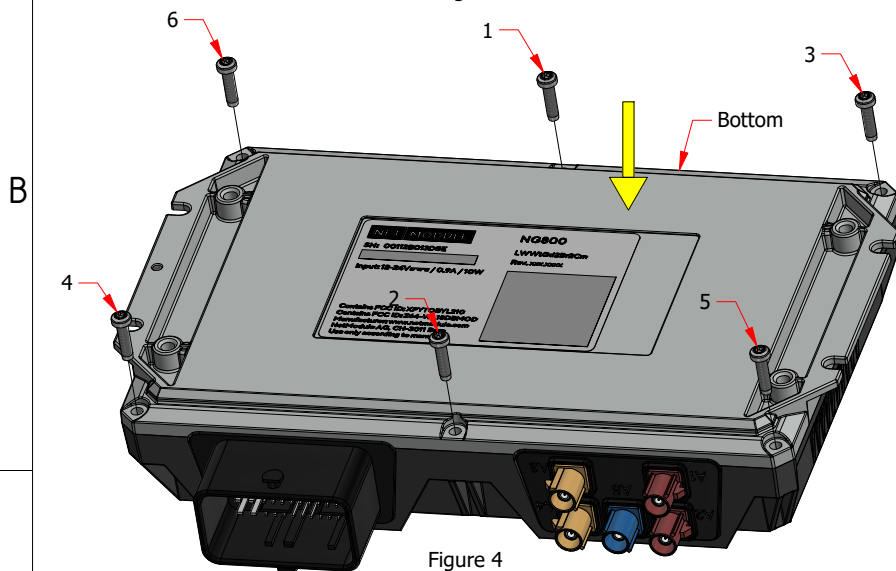

Figure 4
- 3.2 Flip the device with the bottom upwards (Figure 4)
- 3.3 Place the 6 screws in the mounting holes of the cover (Figure 4)
- 3.4.4 Tightening sequence: from screw 1 to 6 (Figure 4)
- 3.4.5 While tightening the screws press the bottom down to the cover (Figure 4)